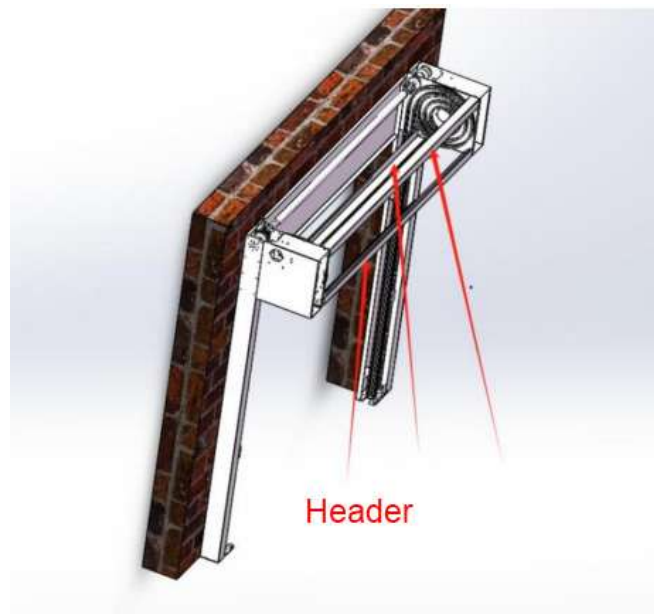

Figure 19
- ⑤ Install the cross beam, as shown in Figure 19;